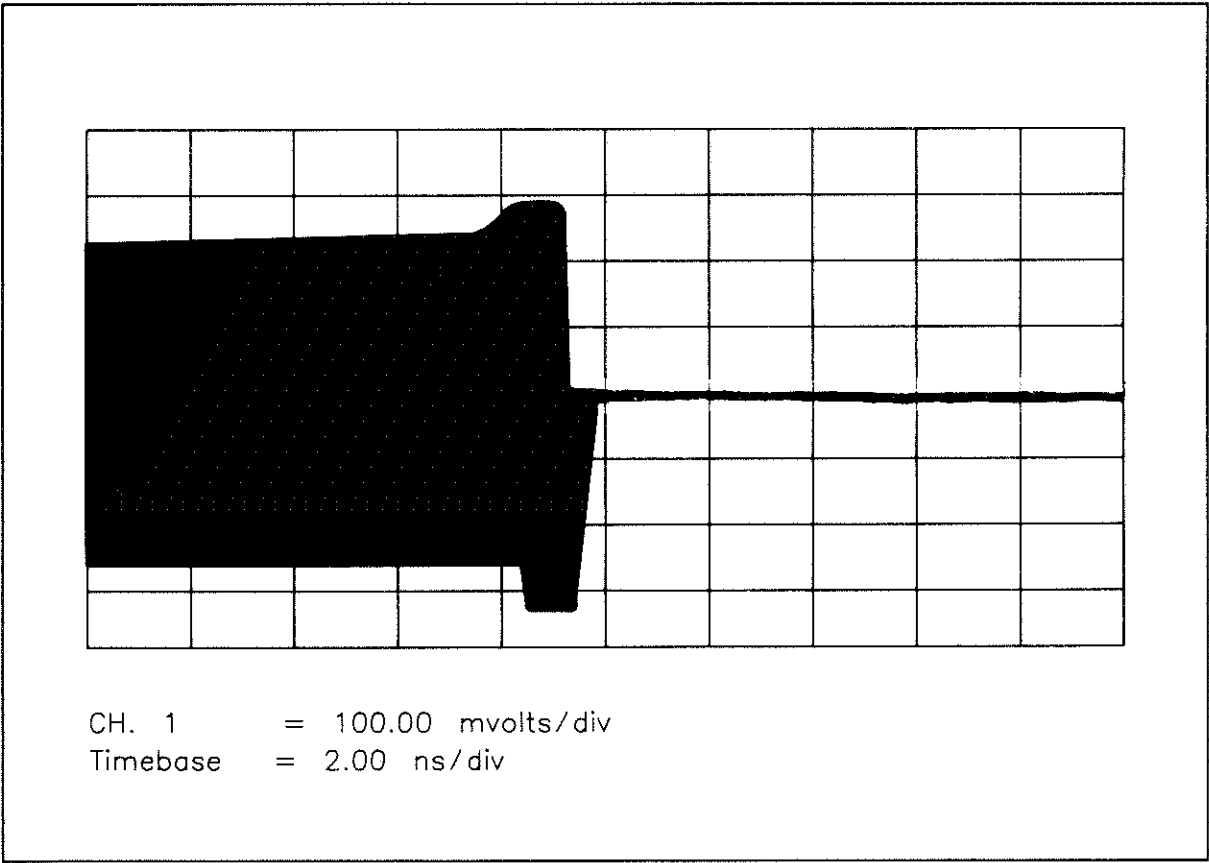

Figure 3-17. Pulse Modulation Pulse Falltime Waveform
- 11. Set the Signal Generator's carrier frequency as given in the following table. For each setting, measure the 10% to 90% falltime. Compare the waveform with figure 3-17. The falltime should be less than 8 ns.